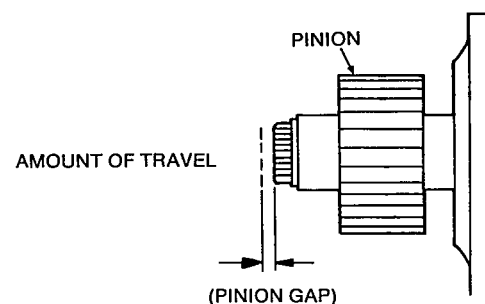

FIGURE 61h. PINION GAP ADJUSTMENT
3. Gently push pinion shaft back towards front bracket and measure the amount of travel (Figure 61h).